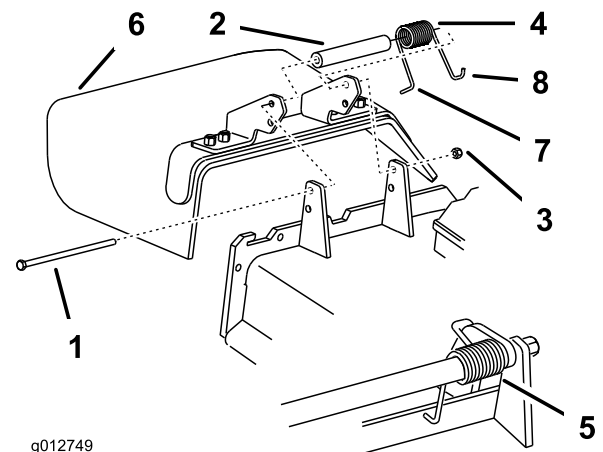

Figure 70
- Remove the locknut, bolt, spring and spacer holding the deflector to the pivot brackets (Figure 70). Remove damaged or worn grass deflector.
Note: Make sure the L end of spring is installed behind deck edge before installing the bolt as shown in Figure 70.
- Install bolt and nut. Place the J hook end of spring around grass deflector (Figure 70).